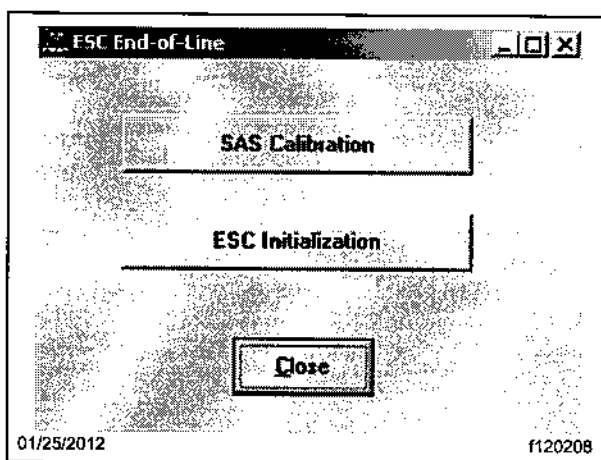
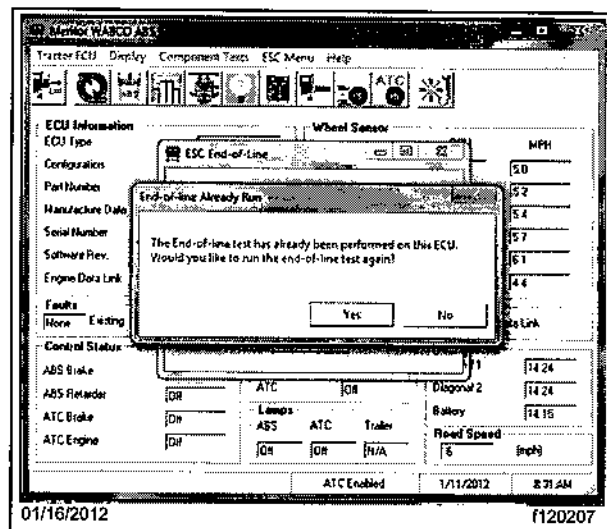

Fig. 10, SAS Calibration/ESC Initialization
Fig. 13, End of Line Already Run
5. In the message box, click "SAS Calibration". See Fig. 10.
3. Click "ESC Initialization". See Fig. 10. The "End-of-Line Already Run" screen will appear. Click "Yes." See Fig. 13.